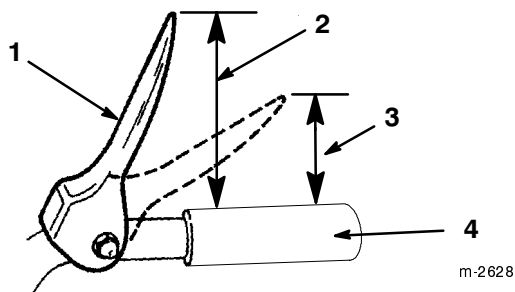

Figure 8
3. Adjust the flange locknut up or down on the traction control rod until the distance between the top of the handgrip and the bottom of the traction control lever is approximately five inches (12.7 cm) (Fig. 8).
The adjustment is correct when the wheels stop rolling backward and the distance between the top of the handgrip and the bottom of the traction control lever is three to four inches (7.6 to 10.2 cm) (Fig. 8).